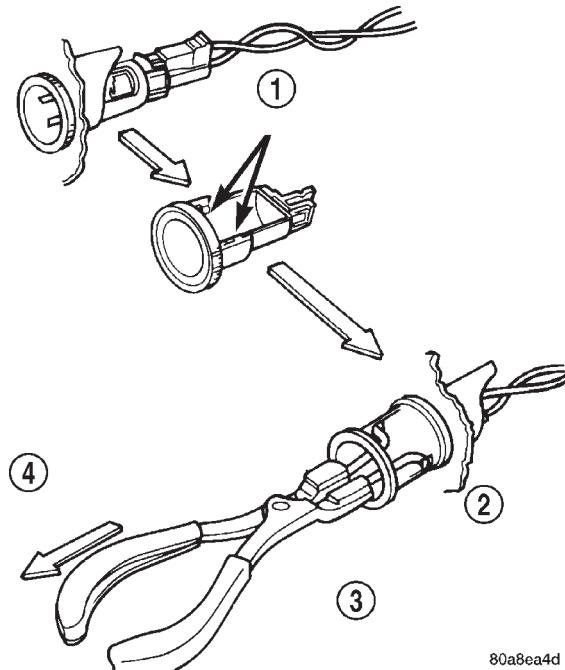

Fig. 8 Cigar Lighter / Power Outlet Base Removal
- (2) Look inside and note position of the retaining bosses (Fig. 8).